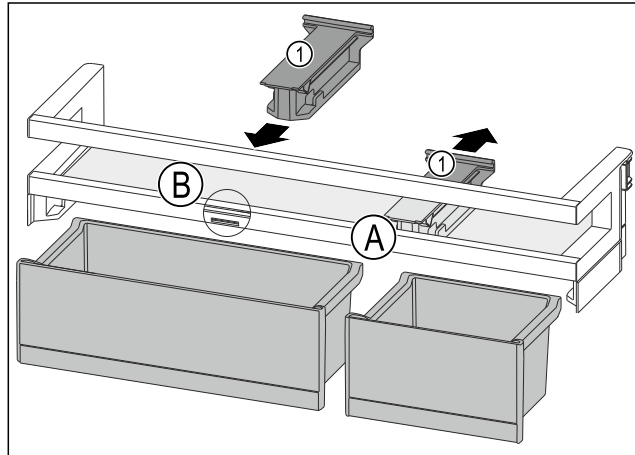

Fig. 184
- ▶ Take off the holding part Fig. 184 (1) in position Fig. 184 (A) backwards.
- ▶ Insert the holding part Fig. 184 (1) in position Fig. 184 (B).